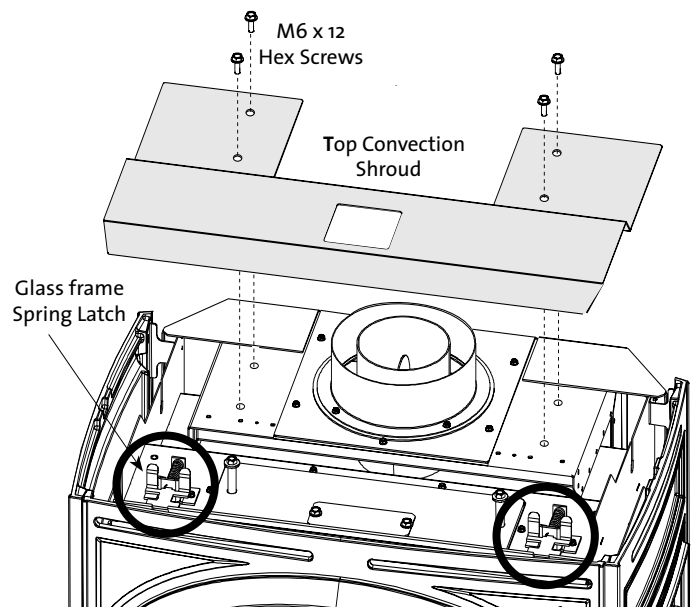

Figure 2.2. Remove the Top Convection Shroud and disengage the glass frame latches.
a) Remove four hex head screws using a 10 mm wrench and disengage the Top Convection Shroud from the top of the firebox. See fig. 2.2.
- b) **Remove the Glass Frame** by disengaging the two spring latches located on top of the firebox as in fig. 2.2. Pull each handle forward to clear the latch from the notch in the frame and lift the frame straight up out of the stove.